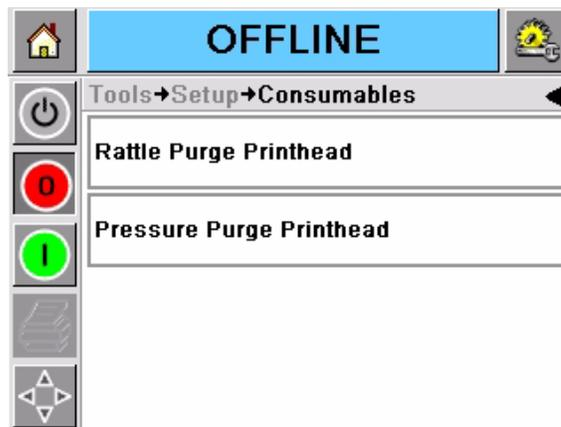

Figure 4-12: Pressure Purge Printhead
- 2 Go to Tools > Setup > Consumables (Figure 4-7 on page 4-11). The Consumables page appears (Figure 4-12).